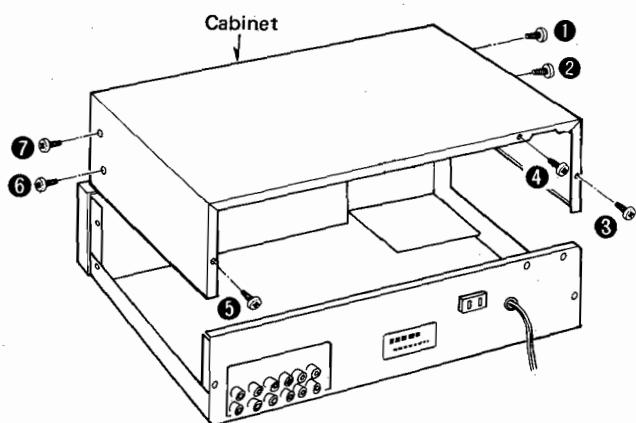

Fig. 1
1. Remove the screws (Fig. 1: ① ~ ⑦) of the cabinet.
1. Remove the cabinet. (See **Fig. 1**.)